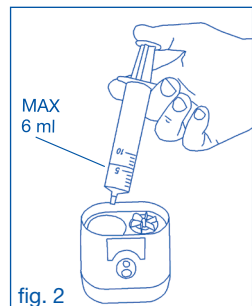

fig. 2
2. Insert the medication dose (max 6 ml) in the relevant tray (if a syringe is used, remove the needle) (fig. 2); The medication is best diluted to at least 4 ml using saline solution to optimise nebulisation.